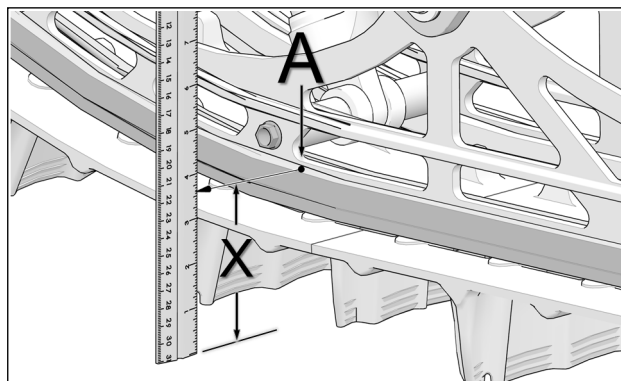

Figure 31
- At the **front** measurement point (A), measure distance (X) between the top of the rail slide and the ground. See Figure 31.